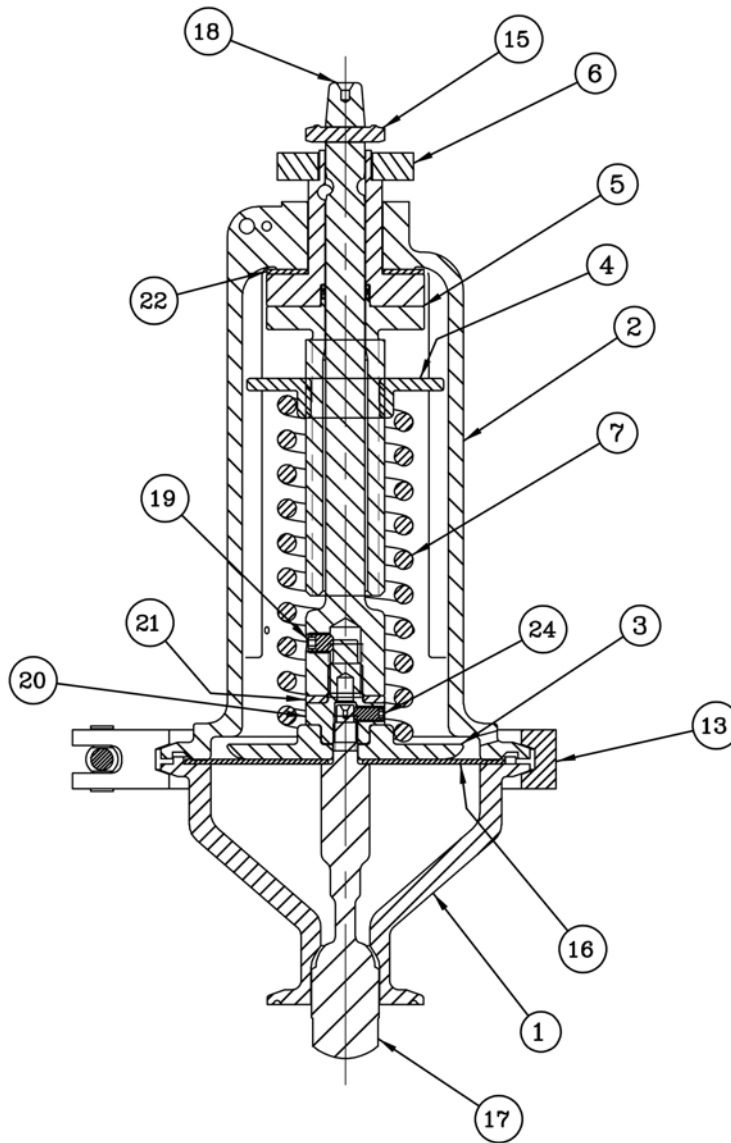

Figure 2: Model C-PRV
- Refer to Figure 2 for item number reference ().